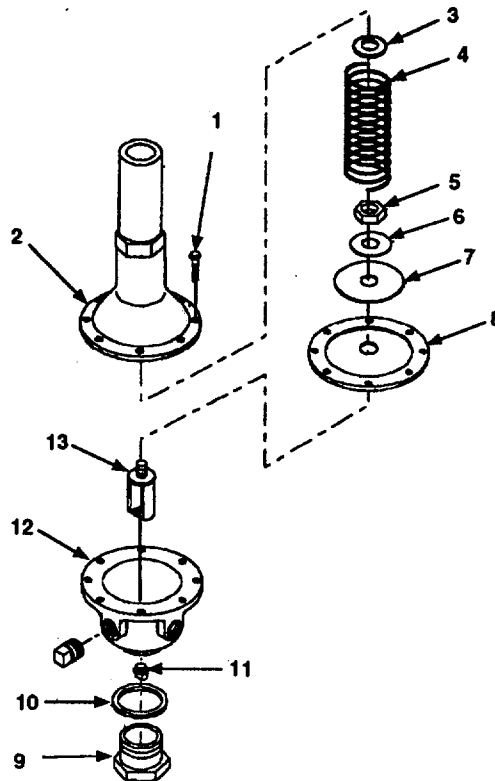

Figure 5-1. Pressure-Reducing Control Maintenance
- a. Remove eight cover screws (Figure 5-1, 1).
- b. Remove cover (2).
- c. Remove spring guide (3) and spring (4).
- d. Remove nut (5).
- e. Remove belleville washer (6), diaphragm washer (7), and diaphragm (8).
- f. Remove plug (9).
- g. Remove gasket (10) from plug (9). Discard gasket (10).
- h. Unscrew disc retainer assembly (11), CCW.
- i. Remove disc retainer assembly (11) through hole in bottom of body (12).
- j. Remove yoke (13) from body (12).